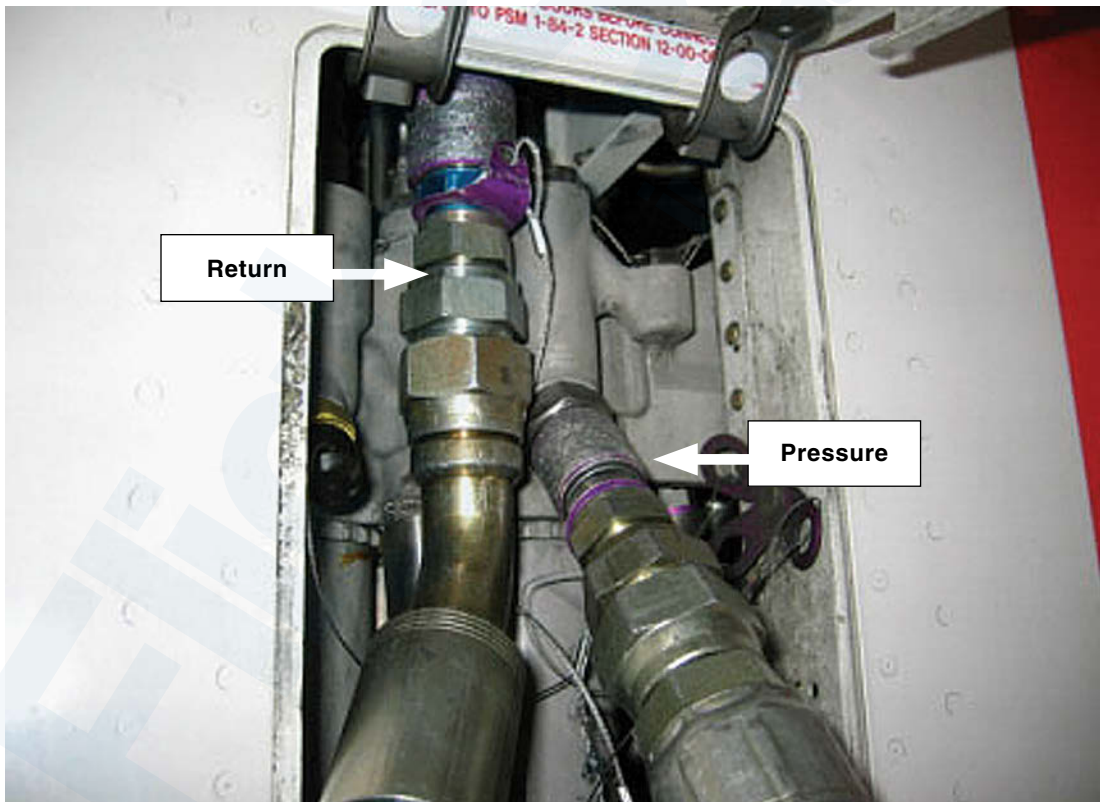

Figure 29-68. Ground Hydraulic Power Unit (GHPU)
- Figure 29-68. Ground Hydraulic Power Unit (GHPU).